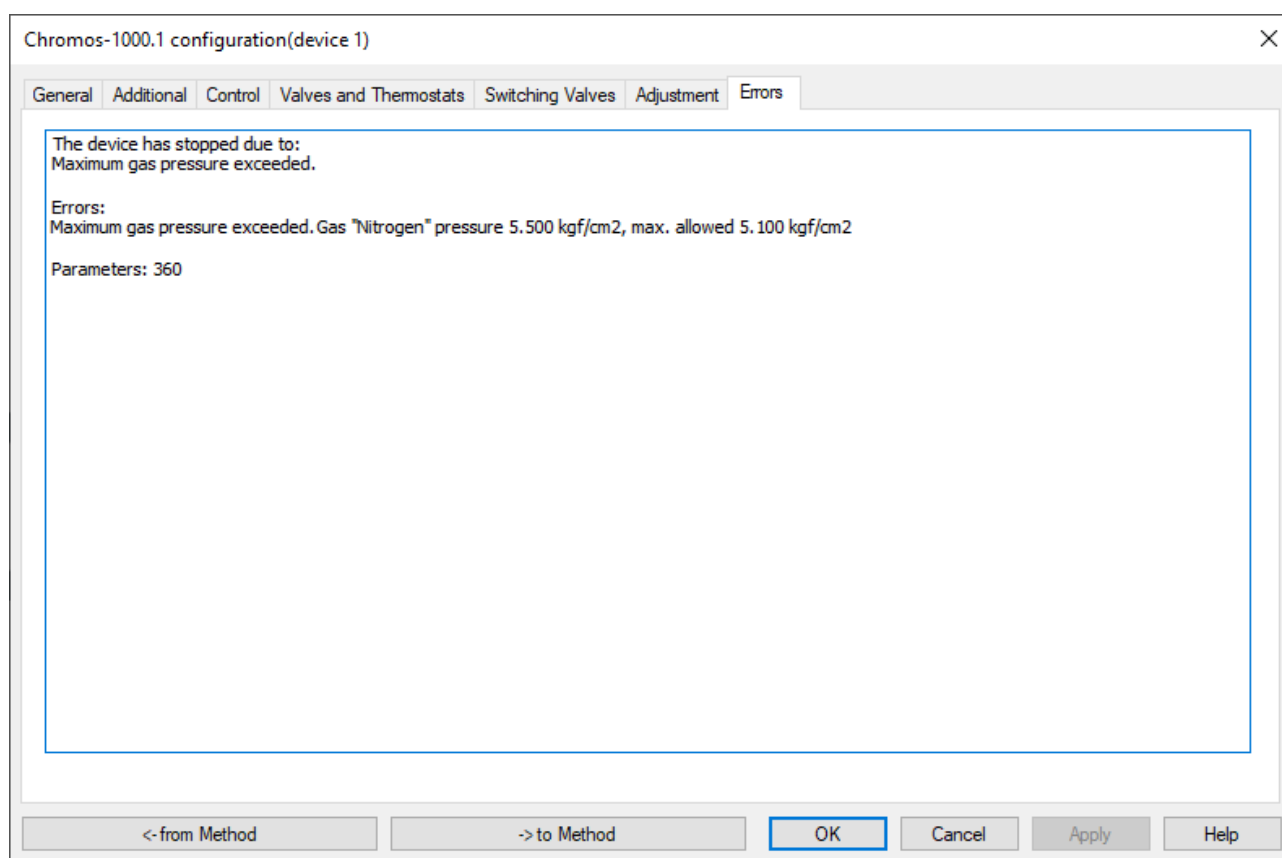

Fig. 104: Chromos-1000 Configuration > Errors
2. In the *Configuration* window, navigate to the *Errors* tab (Fig. 104). The report shows at which GFR the pressure was exceeded.